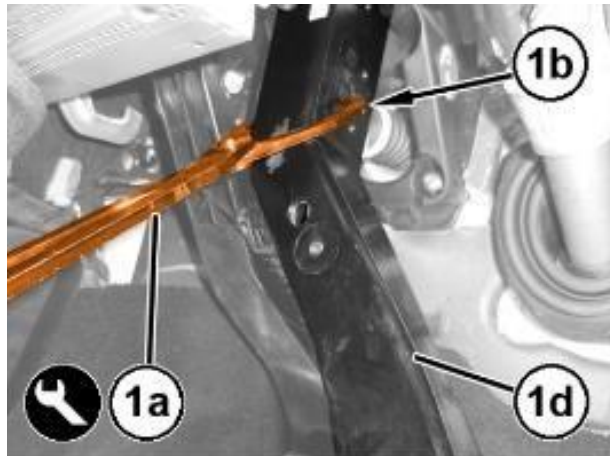

Figure 20 – Brake Pedal Retainer
34. Using the brake switch pliers 2000010500 (1a) positioned on the rear part of the holes (1b) of the brake pedal, compress the retaining device (1c) and retract the brake pedal (1d) at the same time in order to release the pedal from the ABS module push rod (Figure 20).